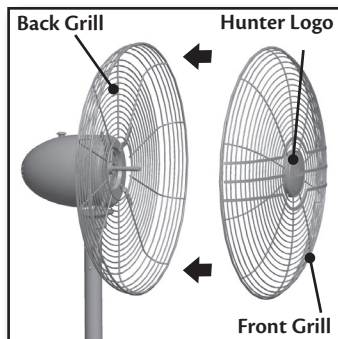

Figure 16
7. Place the front grill against the back grill so that the Hunter logo faces right side up and push together until the tabs on the grills hold them together. Figure 16.